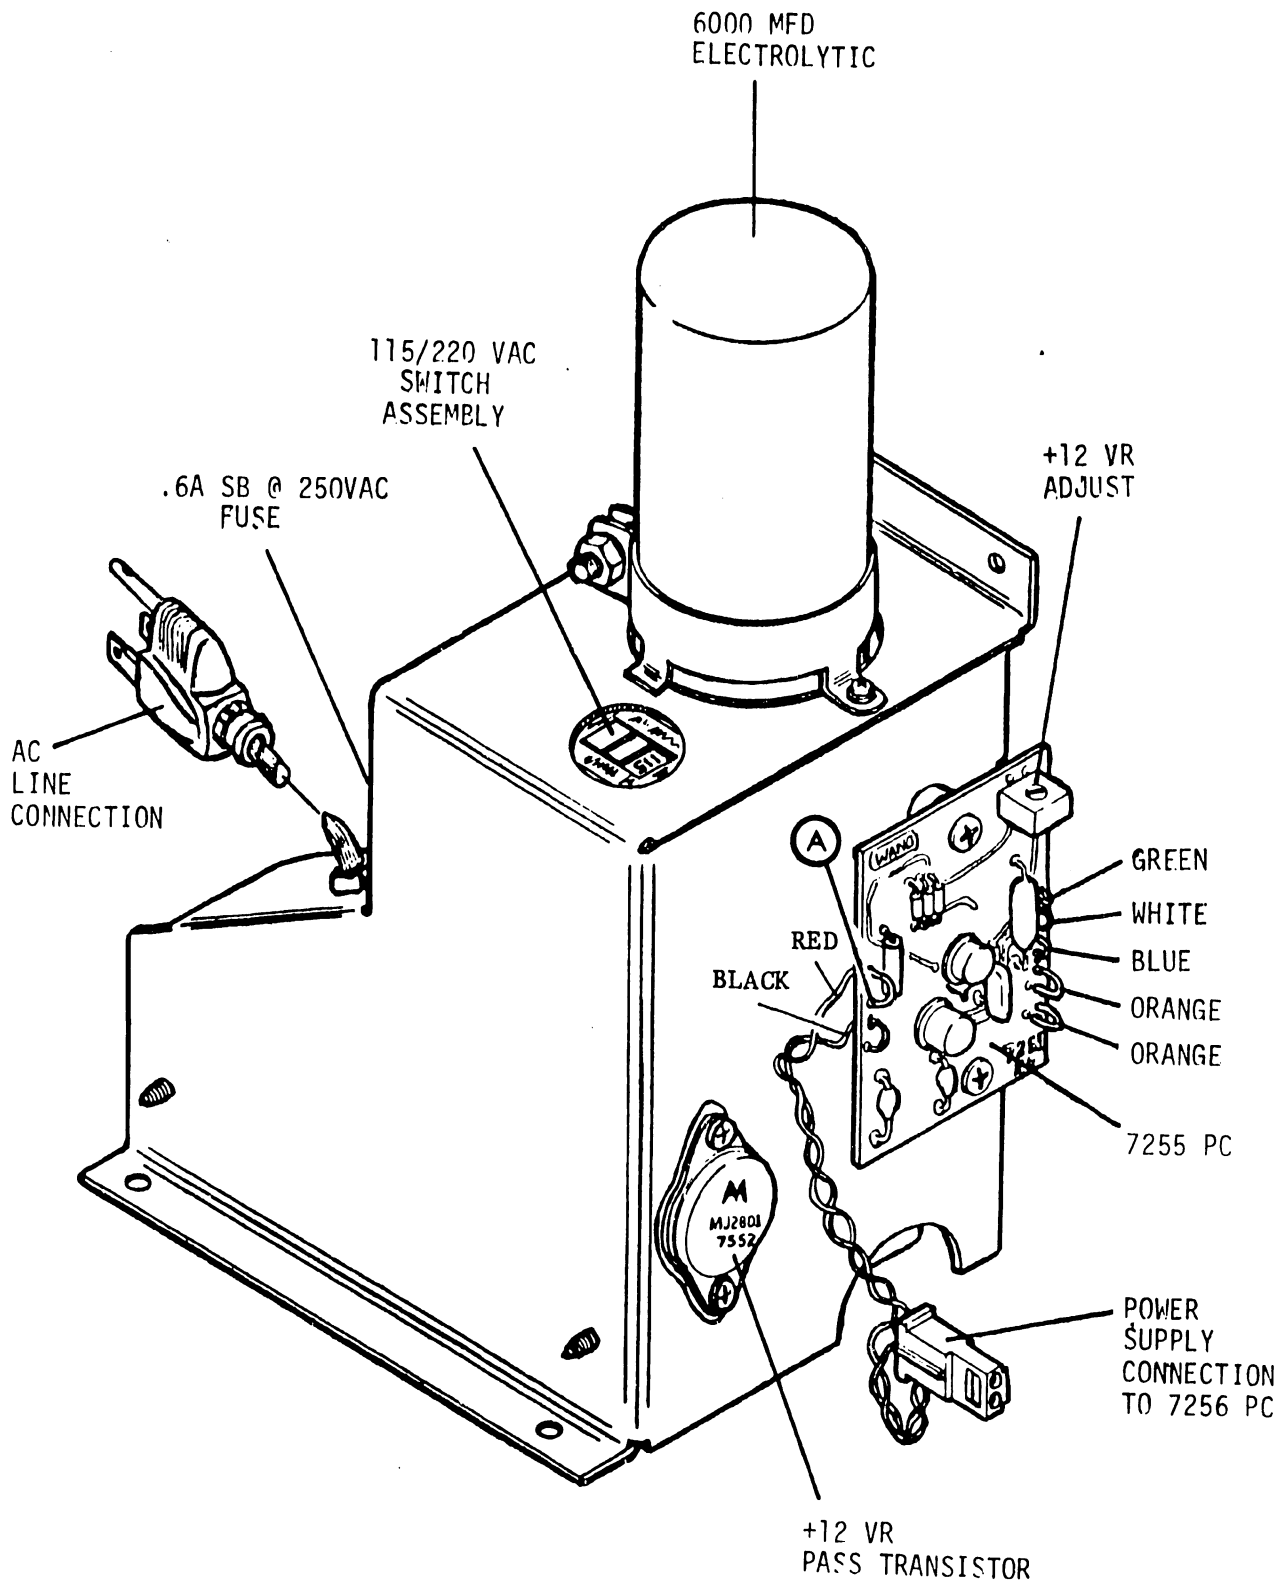

FIGURE 3-2 POWER SUPPLY MODULE FOR WANG DISPLAYS
2. The 928 Workstations equipped with WANG displays have a power supply module PART # 270-0361 for the 12" video display as shown in Figure 3-2. Adjust the +12vdc regulated voltage on the 7255 board that is mounted on the Power Supply module. The adjustment must be +12.00vdc +or-.10vdc. (See Paragraph 3.5.3.1 for details.)
1. Remove the AC plug on the module from the receptacle. (See figure 3-2.)
The power supply module for the 12" monitor display chassis produces a single voltage which is adjustable on the rear of the module. This +12 volt source is wired via a molex connector to the 7256/7456 electronic board. (See Figure 3-2.) The potentiometer adjust is mounted on the miniature monitor regulator board 7255/7455 attached to the rear of the power supply module. Adjust the +12VR voltage to +12vdc +or-.10vdc using point (A) for voltage check.